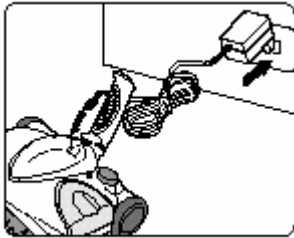

Fig. 9
1. Connect the charger plug to the charging jack or hole on the back of the sweeper. Plug the the charging adapter into the wall outlet. (120V~,60Hz.) Use only TechWorld Charger AD-0920-UL, rated output DC 9V,200mA. (Fig. 9)